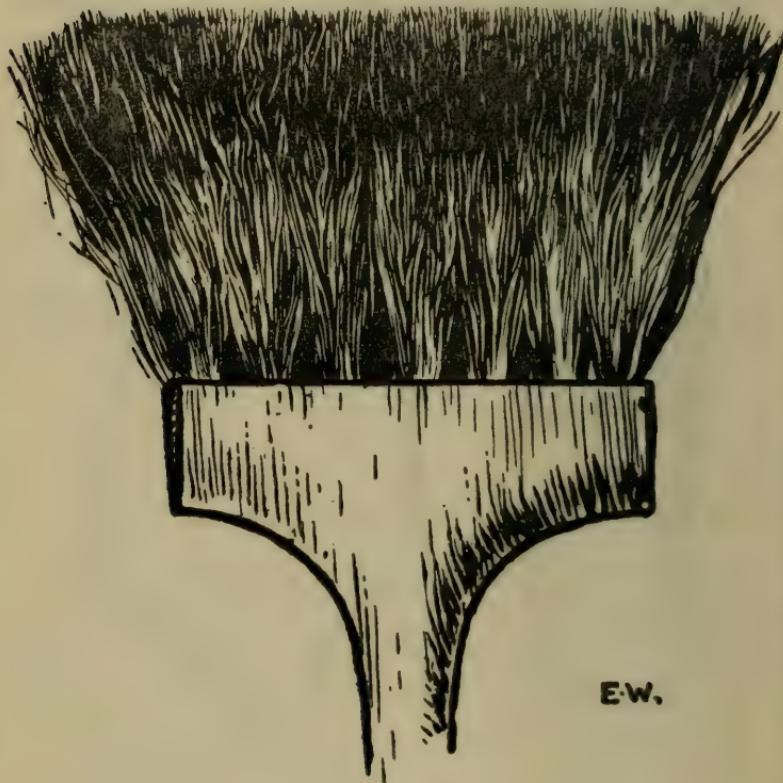

FIG. 29.
**Matting** TAKE your camel hair matting-brush (fig. 27 or 28); fill it with the pigment, try it on the slab of the easel till it seems just so full that the wash you put on will not run down till you have plenty of time to brush it flat with the badger (fig. 29).